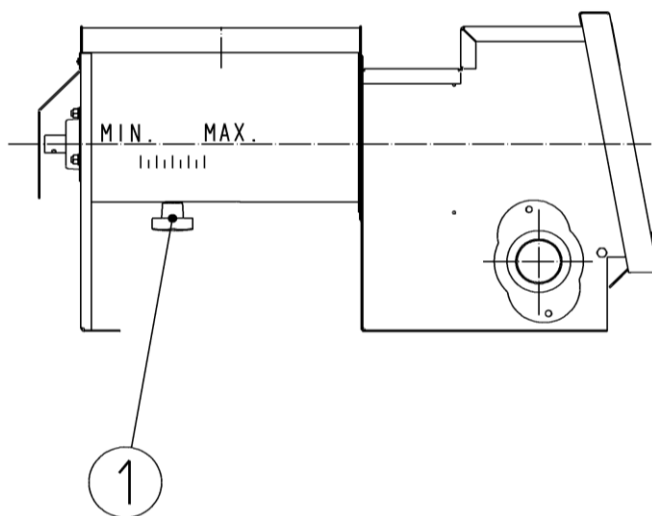

Fig. 48 Adjustment of hopper
When filling feed into the system, you must adjust the hopper so that the filling of the pipes is done correctly. The filling is adjusted by adjusting the handle under the hopper (pos. 1, Fig. 48). After loosening the handle, it is pushed slowly from pos. "min." towards "max.", until you get a filling of 50-60%. When the adjustment is satisfactory, re-tighten the handle. Be aware that the proportioning cannot be closed completely, and that the adjustment can only be altered, while the system is operating, in order to secure against over-filling and against jamming of the throttle.